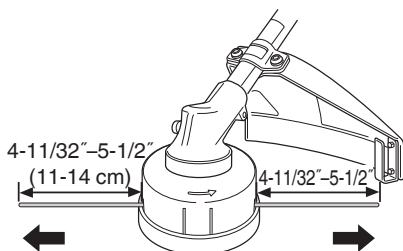

Fig. 26
- (7) The initial cutting line length should be approx. $4-11/32''-5-1/2''$ (11-14 cm) and should be equal on both sides. (Fig. 26)